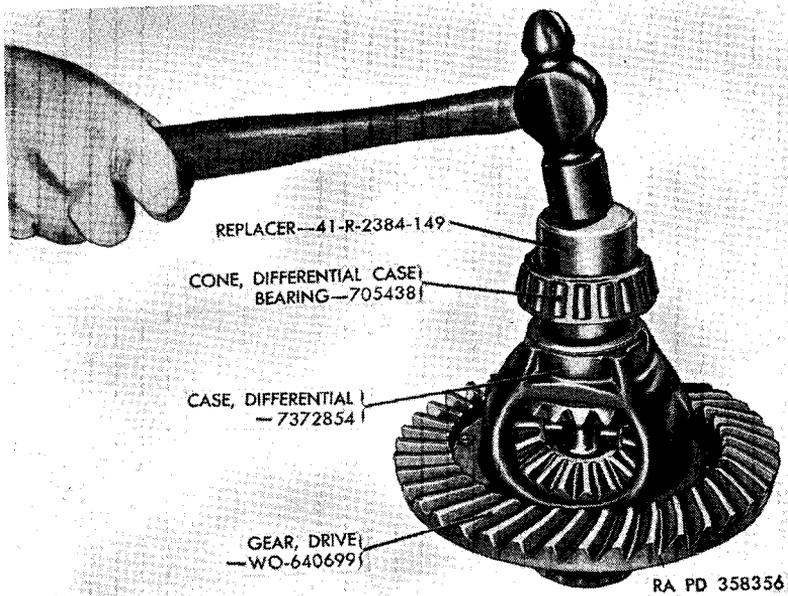

Figure 80. Installing differential case bearing cones.
d. *Adjust Differential Case Bearing Cones* (fig. 65). The adjustment of the differential case bearing cones (D and P) is maintained by the use of case bearing shims (E, F, M, and N) placed between the differential case and differential case bearing cones with an 0.008-inch pinch fit when assembled in gear carrier housing. Install the differential case bearing cones without shims, using replacer 41-R-2384-149, (fig. 80). Place the differential case in the gear carrier differential case housing with differential case bearing cups (C and Q) and force to one side. Check the clearance between the differential case bearing cup and the differential case with a feeler gage (fig. 81). After the clearance has been determined, add 0.008 inch, which will give the proper thickness of case bearing shims required. Remove the differential case bearing cones and install equal thickness of case bearing shims (E, F, M, and N) on each side; install the differential case bearing cones.